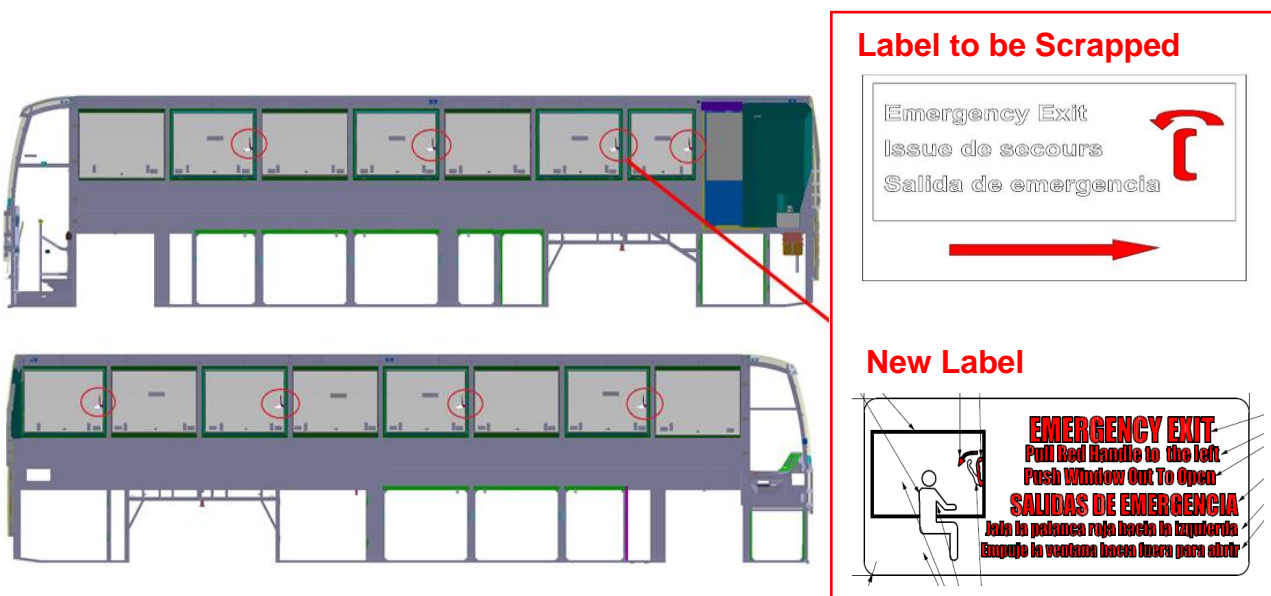

Figure-1
1. There are 4 emergency exit windows on each side of the vehicle and each emergency exit has one handle to open the window. The label must be changed which is located by the window as shown in the below picture (See Figure-1)